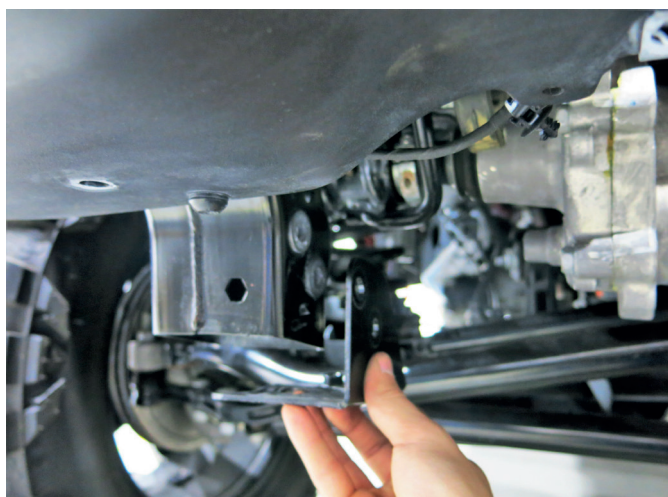

Fig. 3
3. Unscrew 2 bolts securing OE skid plate (Fig. 3).